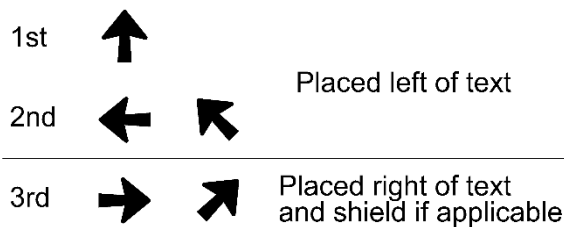

Figure A14
20. On intersection direction signs with more than one destination, the destinations shall be ordered from top to bottom so that a straight ahead destination is first, then destinations to the left, then destinations to the right. Straight ahead and left facing arrows shall be placed to the extreme left of the destination name. Right facing arrows shall be placed to the extreme right of the destination name and shield, if applicable. See Figure A14.